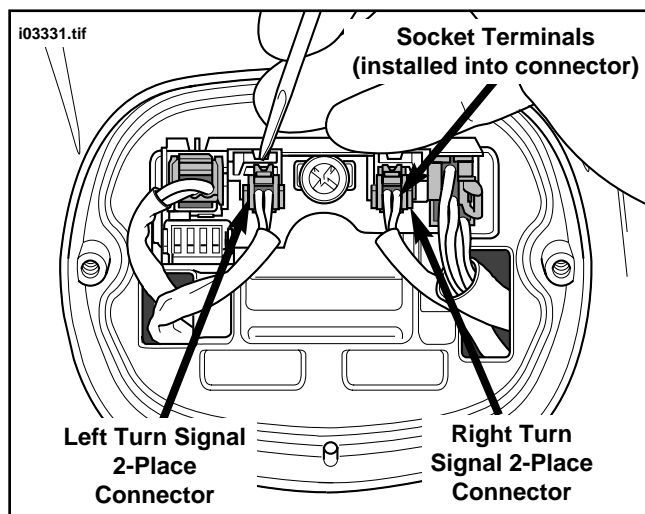

Figure 1. Remove 2-Place Connectors
3. See Figure 1. Remove left and right two-place connectors from circuit board (inside rear tail lamp). Following instructions in applicable *Service Manual*, remove left and right turn signal socket terminals from connectors.
12. Following instructions under Amp Multilock Connectors in applicable Service Manual, install new socket terminals (P/N 73191-96) to wires, then install socket terminals to 2-place connector. Repeat for the opposite turn signal. Refer to Figure 1 and install 2-place connectors into respective positions on circuit board. Reinstall tail lamp lens.